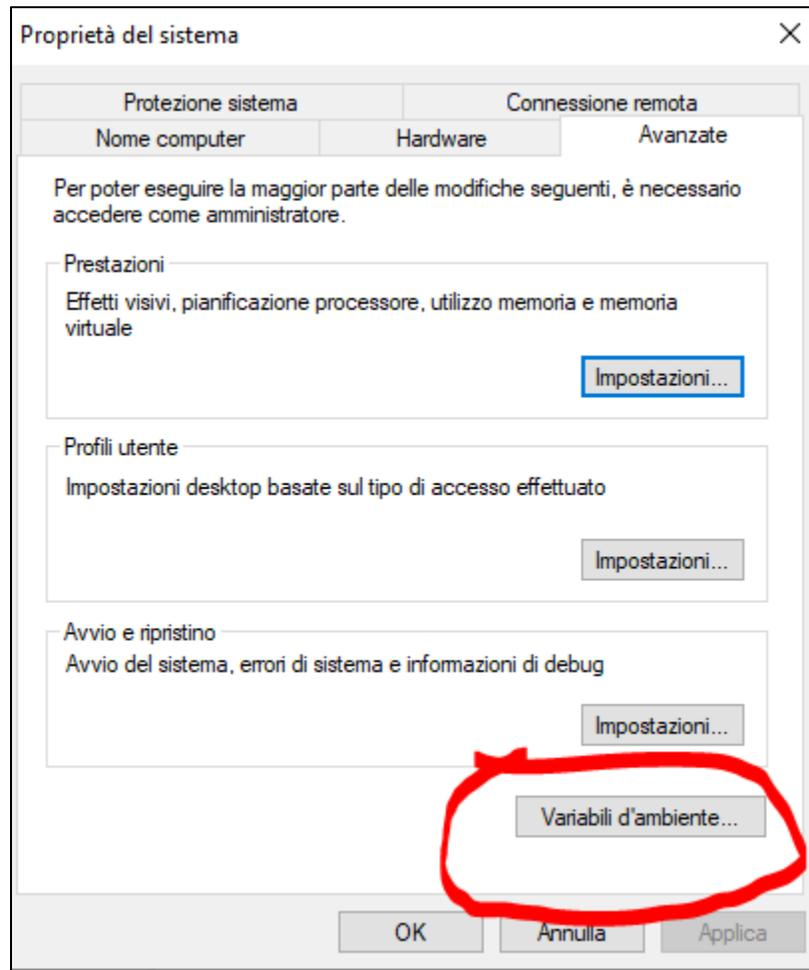
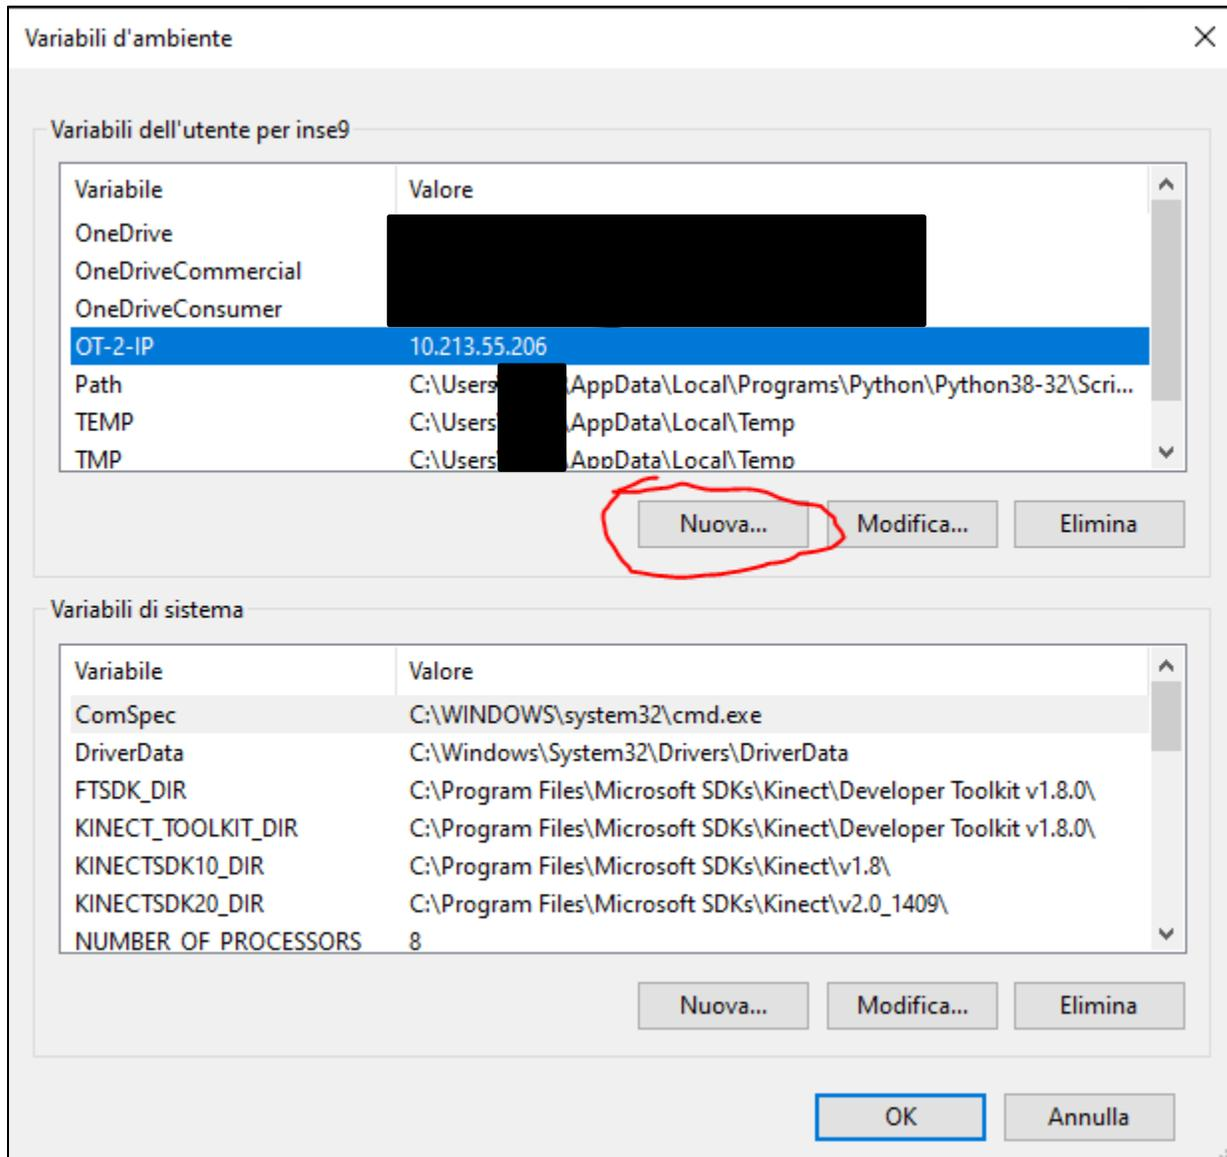
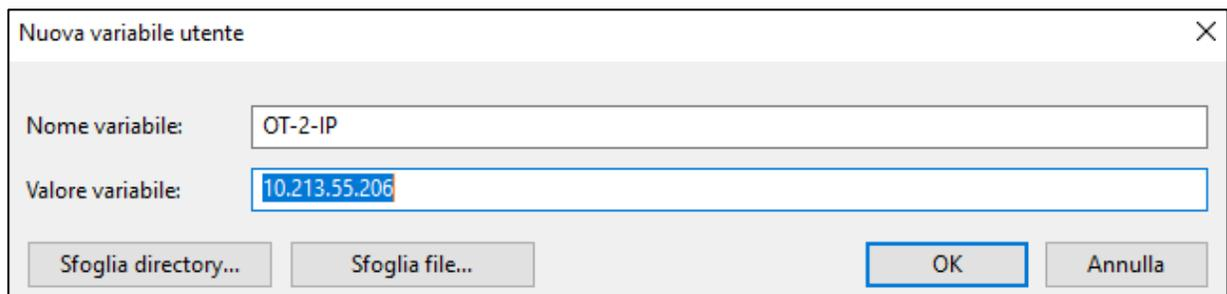

Figure 9
Figure 10
Figure 11
- b. Type in the Windows Search Bar: “Environment Variables”. The menu shown in Figure 9 should appear.
- c. Click on the button that is encircled in Figure 9: “Environment Variables”. Another window will open (Figure 10).
- d. To create the environment variable, click on the red button (circled in Figure 10): “New”. This will create the environment variable (Figure 11).
- e. Enter the IP as the value of the variable and the name: OT-2-IP. Then press OK (Figure 11).